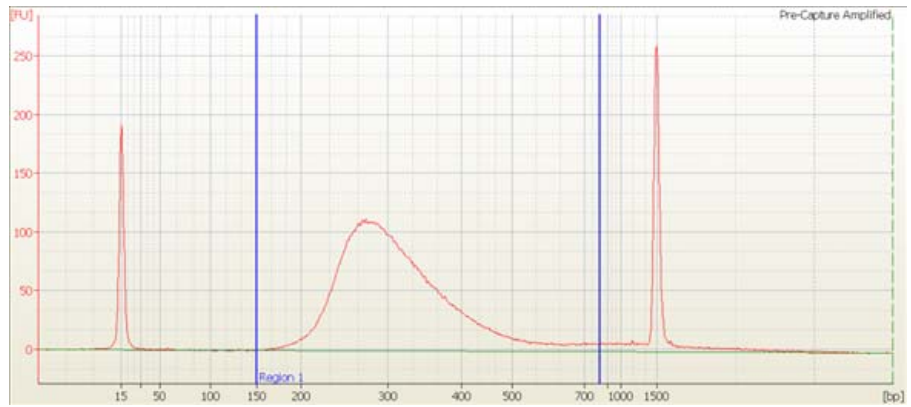

Figure 3 DNA 1000 Assay analysis of amplified library DNA prepared using the 1-µg DNA input Sample Preparation protocol.
- 4 Verify that the electropherogram shows a distribution with an average DNA fragment size of approximately 250 to 275 bp. A sample electropherogram is shown in Figure 3.